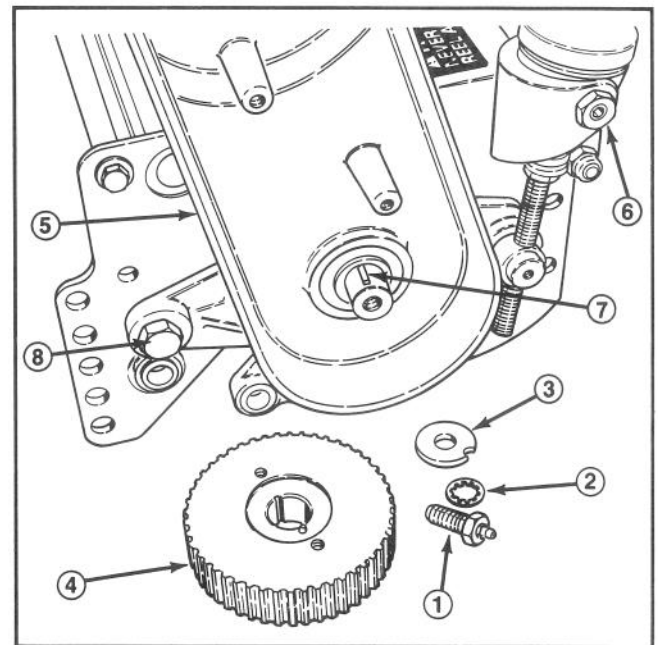

Figure 30
8. Remove the adjustment handle assembly and cone nut, belleville washer and shoulder bolt securing the housing to the sideplate (Fig. 30). Remove the housing.